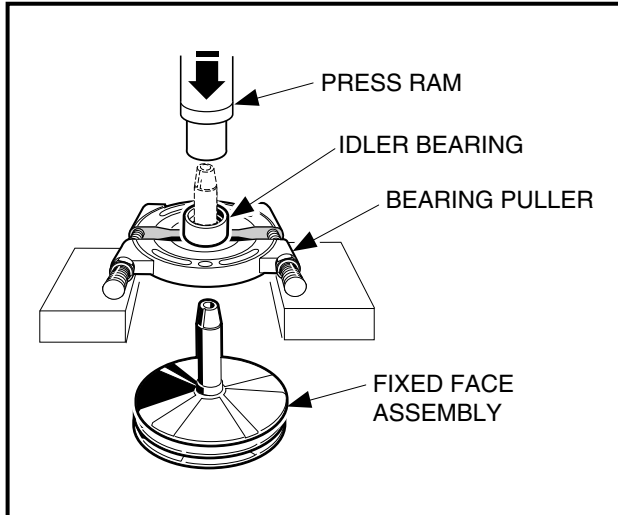

Figure 17-10 Remove Idler Bearing
8. Remove idler bearing if necessary. Use a press to remove the bearing (**Figure 17-10, Page 17-10**). See following NOTE.